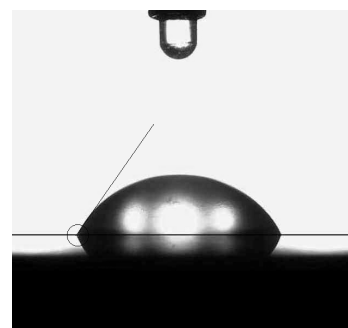

Fig 2.14 Point of reflection
- Locate the point of reflection on the droplet at the edge of the contour (black circle in Figure 2.14).